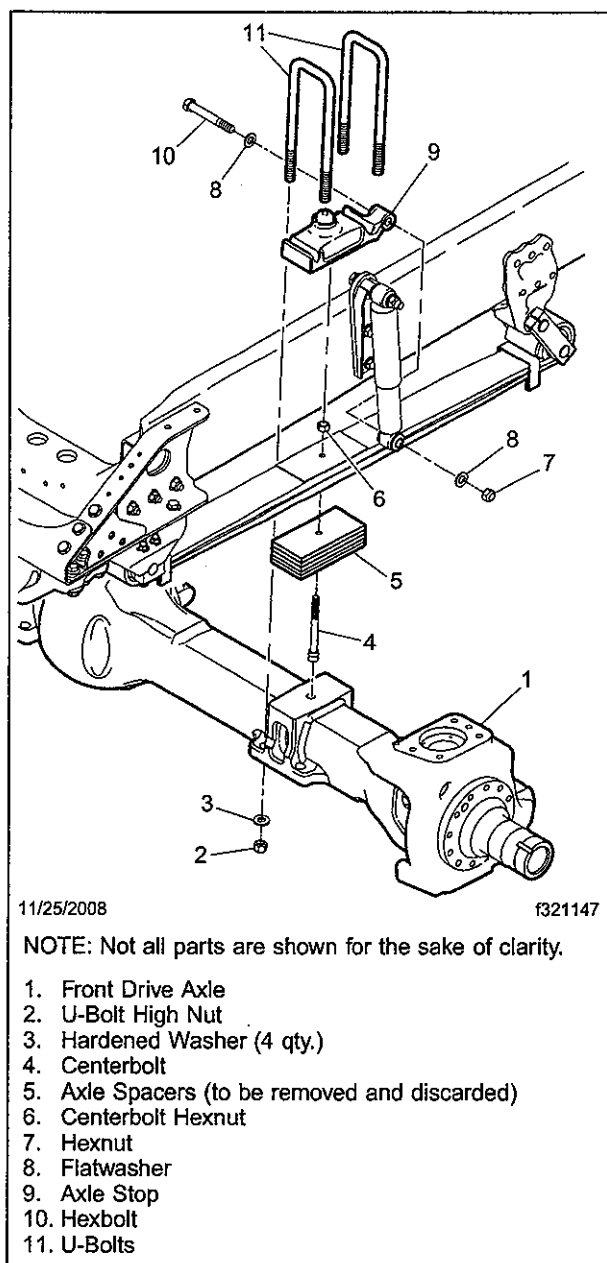

Fig. 3, Front Axle Removal (driveline disconnected)
13. Remove the front axle from the vehicle as follows. See **Fig. 3**.